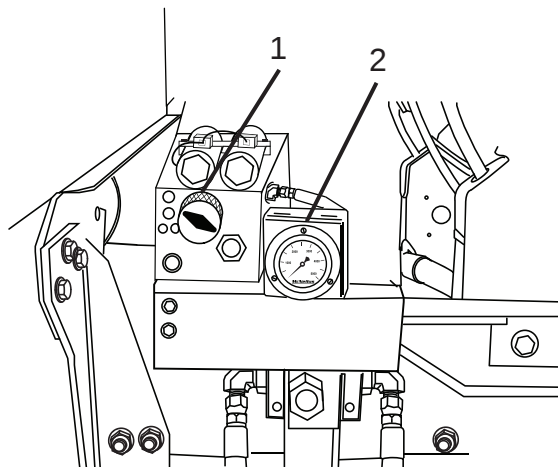

Figure 69
4. Once the pressure requirements have been determined, use the PRV knob (Figure 69, Item 1) to adjust the pressure to the required pressure. Pressure will be displayed on the gauge (Figure 69, Item 2).